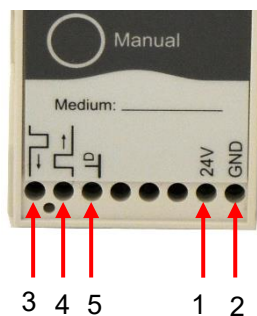

Figure 1
Refer to Figures 1 to 4:
16. Screw each cable to the FlowClip clamp connections. Refer to figure 1.